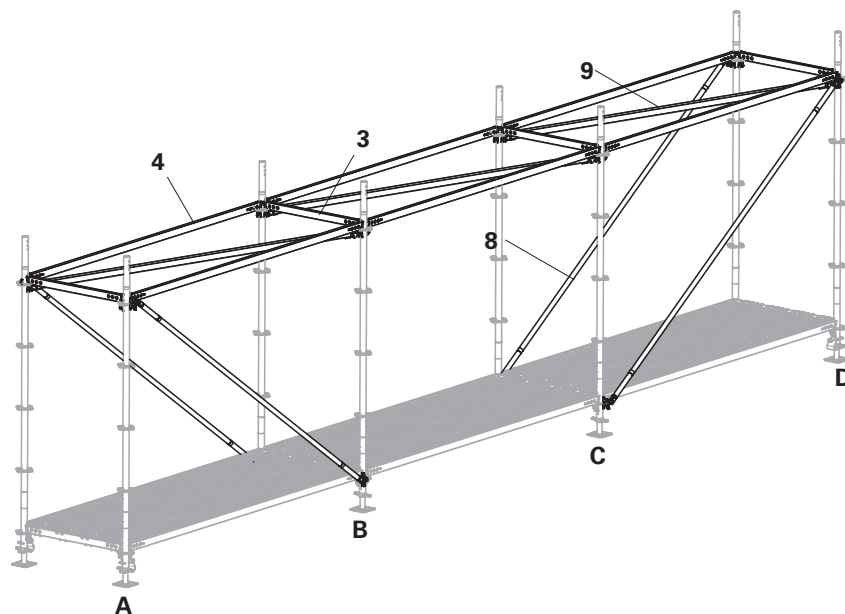

Fig. A1.06
1. Fit the Node Braces UBK-2 300/200 onto the edge frame columns (**A + D**) using the rosettes at a height of 2 m. Fit them onto the centre frame columns (**B + C**) using the lowest rosettes of the top standards. (Fig. A1.06)
3. Install Horizontal Braces UBH (**9**). (Fig. A1.06)